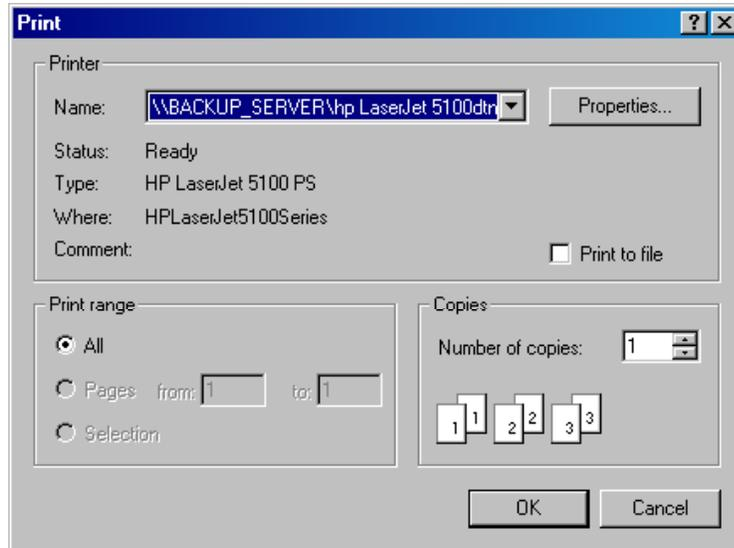

Figure 2.29 System Print Dialog Box
- After you have everything set, click **Print** and the default system **Print** dialog box will open (Figure 2.29). Select the printer, and any other options you wish to set, click **OK**. The report will then be printed on the selected printer.
5. If you like what you see in the **Print Preview** dialog box, you can print by clicking **Print**, which opens the system **Print** dialog box (see Figure 2.29), or you can close the **Print Preview** dialog box by clicking **Close**.